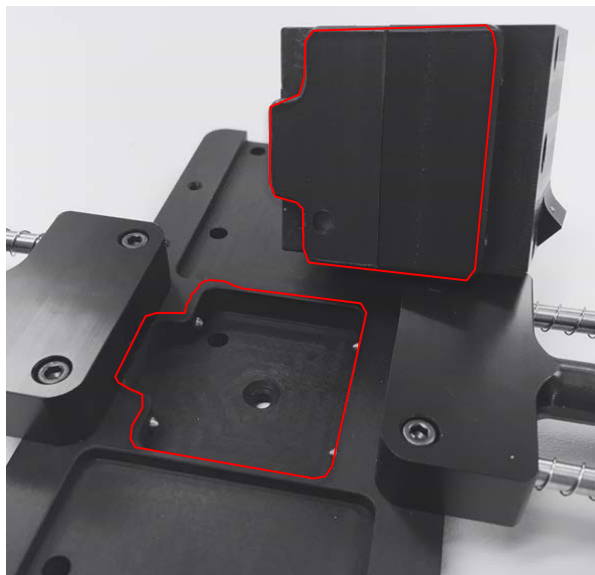
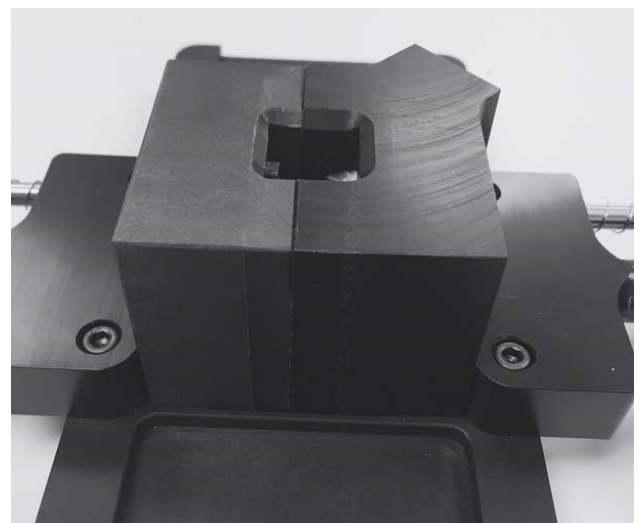

**FIGURE 3: Registration pins and front slip-pin**
**FIGURE 4: Spring-loaded beam tubes**
3. Insert the baseplate assembly into the sample compartment of the Evolution 220 using the registration pins at the back, and then push down to secure the plate against the front slip-pin (see Figure 3). Ensure that the spring-loaded beam tubes fit flush against the walls (See Figure 4).